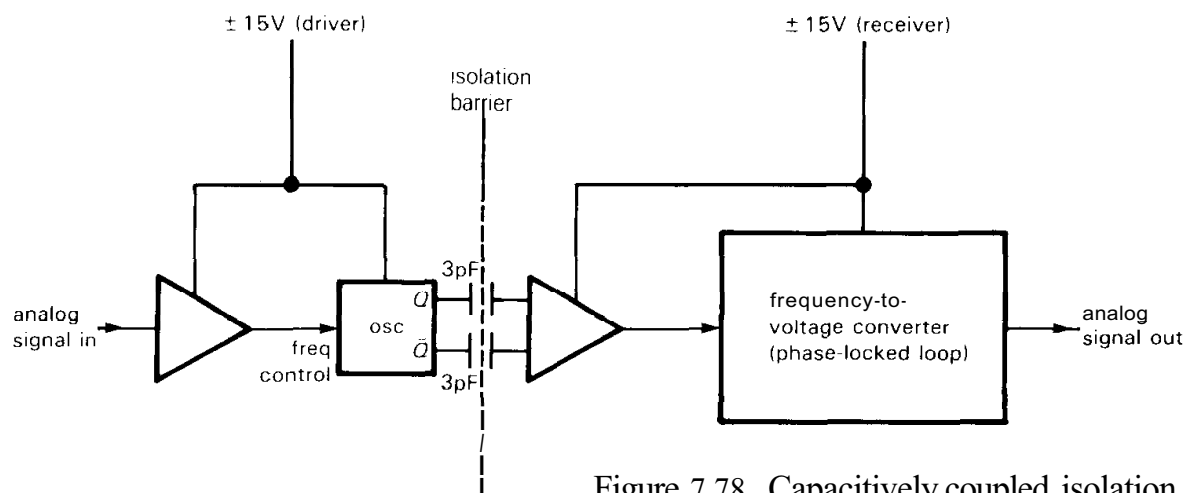
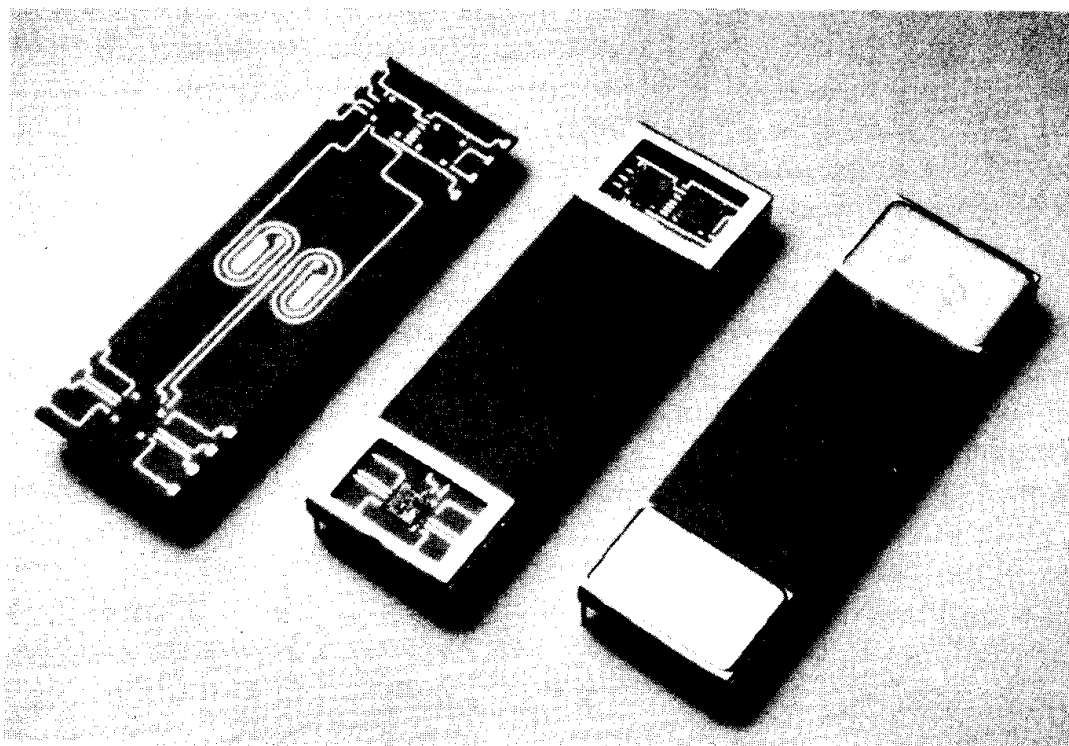

Figure 7.78. Capacitively coupled isolation amplifier.
Figure 7.79. Burr-Brown IS0106 isolation amplifier. (Courtesy of Burr-Brown Corporation.)
3. Capacitively coupled isolation of a **high-frequency** carrier signal, which is frequency-modulated with the signal to be isolated (Fig. 7.78). This technique is typified by the ISO102, ISO106, and ISO122 from Burr-Brown (Fig. 7.79). There is no feedback, as with transformer isolation, but for most models you need power supplies at both ends. This usually isn't a problem, since you are likely to have electronics at both ends, generating and using the signal. If not, you can get an isolated